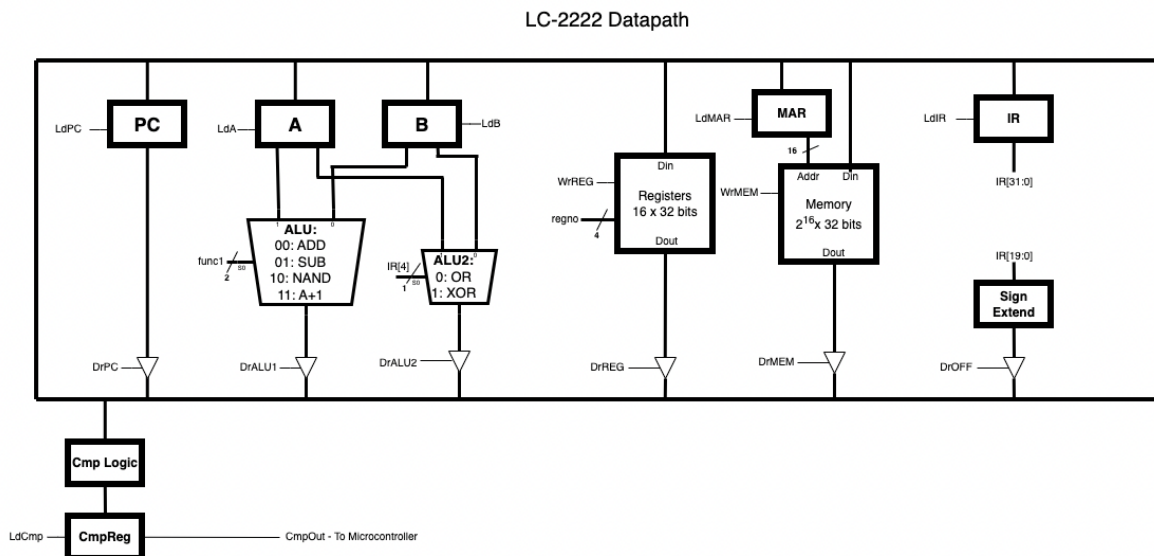

Figure 1: Datapath for the LC-2222 Processor
2. Using CircuitSim, implement the LC-2222 datapath. To do this, you will need to use the details of the LC-2222 datapath defined in Appendix A: LC-2222 Instruction Set Architecture. You should model your datapath on Figure 1.
The “Cmp Logic” box in Figure 1 is responsible for performing the comparison logic associated with the BLT, BGT, and BEQ instructions. The comparison logic should read the current value on the bus. When executing BLT, BGT, and BEQ, you should compute  $A - B$  using the ALU. While this result of the ALU is being driven on the bus, the comparison logic should read the result  $A - B$  and output a single “true” or “false” bit for either the condition  $A > B$ ,  $A < B$ , or  $A == B$  depending on the instruction being executed.
2. Implement the Microcontrol Unit using CircuitSim. The appendix contains all of the necessary information. Take note that the input and output signals on the schematics directly match the signals marked in the LC-2222 datapath schematic (see Figure 1).
3. Connect the completed control unit to the datapath you implemented in Phase 1. Using Figures 1 and 2, connect the control signals to their appropriate spots.